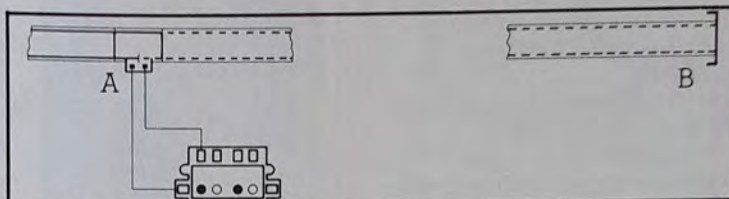

Figure 2.
- by pressing the button you restore power to the section and the train can be operated normally in either directions from the controller. Some simple electrical diagrams are illustrated at figures 2 and 3.